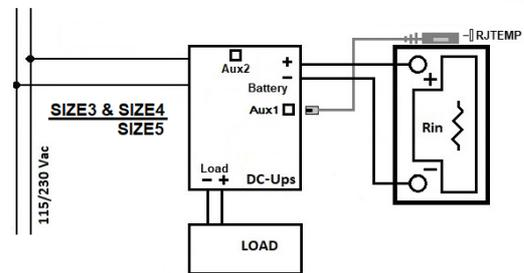

Fig.6
- Battery Sense connection NO; (Fig.6)